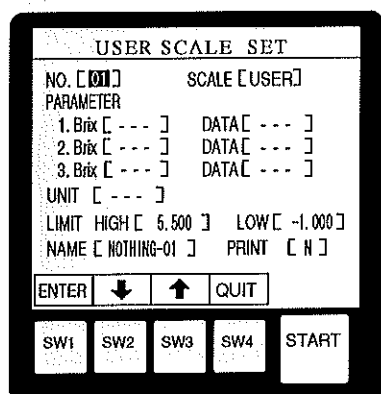

Fig.13-1
(1) Method of setting
- The display changes to the screen shown in Fig.13-1. The scale No.[01] will start blinking. If No. 01 has been entered, use the SW2(↓) or SW3(↑) key to select a scale No. which has not been entered yet, then press the SW1(ENTER) key.